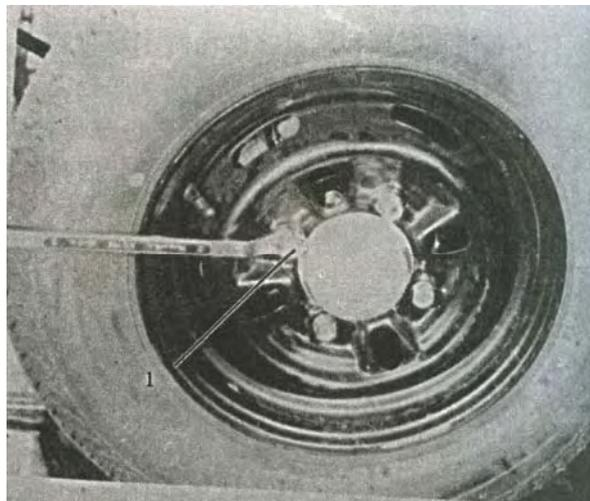

FIG.16-54 1-Wheel nut
- (5) Install brake drum after cleaning oil and dust on inner surface of brake shoe and brake drum.
- (6) Tighten wheel nut to specified torque. (FIG.16-54)